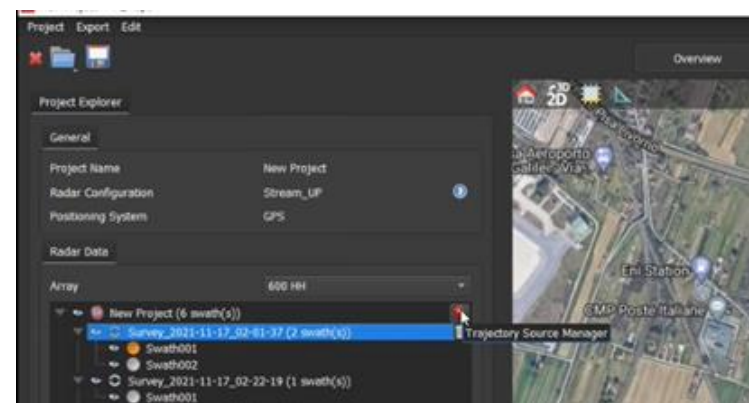

Fig. 54 APS Source Trajectory Manager
1. Press on the  icon of Fig. 54,